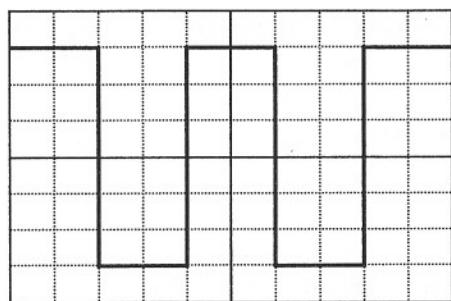

Figure 1
- c). Adjust VR108 until amplitude at 6.06 Div. (or adjust 6.00 div by setting calibrator 60mV±1%). (Adjust to exactly 6.00 div if adjust with cover) (See fig 1)